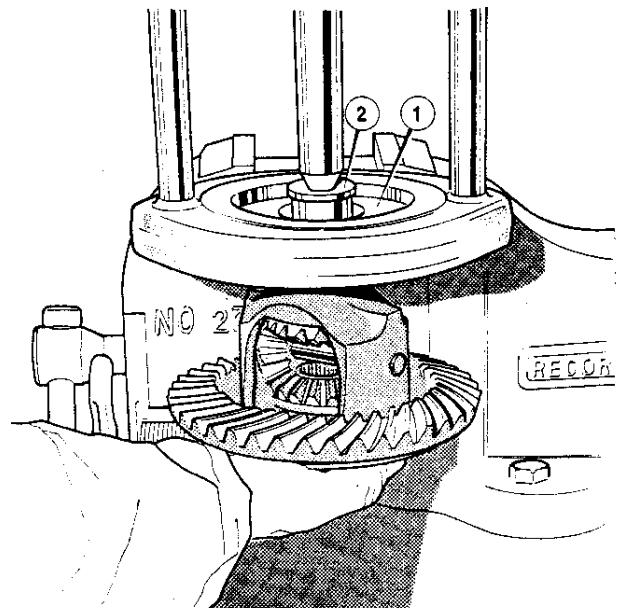

Figure 6 Removal of differential bearing using collars, adapters and hand press
6. Using a hand press, General tool No. 47, and collars RT 8764/1, with adapter RT 8764/2, remove the differential bearings as follows: Feed the differential unit in to the hand press and fit into the cone of the tool. Ensure that the bearing fits securely into the collars and the rollers on the bearing and fit the adapter to the differential unit (**Figure 6**). Supporting the differential unit from below, turn the hand press to remove the bearing. Repeat this operation for the other bearing and take note of the value of the shims behind each bearing if only the bearings are to be renewed.